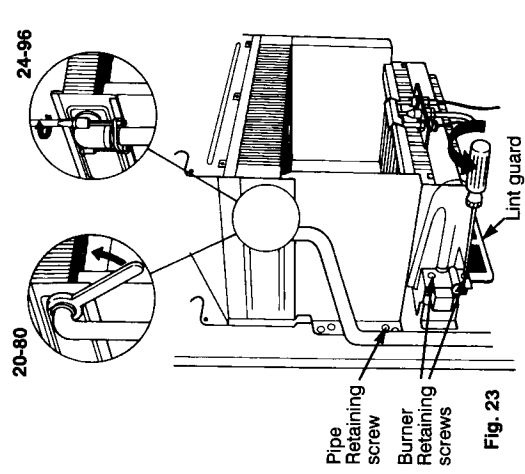

Fig. 23
Refer to Fig 23
- 8.7.4** Remove four burner retaining screws (fig 23) ease burner forward removing lint guard in the process.
- 8.9.5** Unscrew unions on either side of main heat exchanger. (fig. 23)
- 8.9.6** Disconnect upper flanges by removing 2 screws on each flange (fig 23)
- 8.13.4** Disconnect pipe connection at front left corner of main heat exchanger (fig 23)